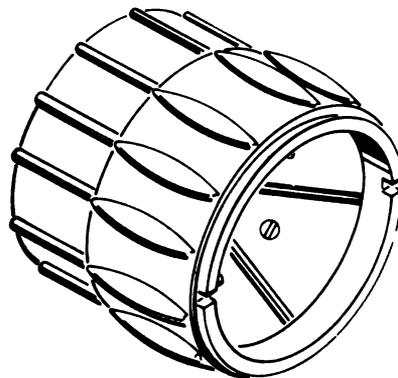

Figure 1-16. Deburring Tool.
(2) *Tube deburring.* Deburring tool (figure 1-16) is provided for removing burrs from the inner and outer edges of the tube. With this tool, burrs may be removed with a few twists of the wrist. The tool is equipped with replaceable blades.